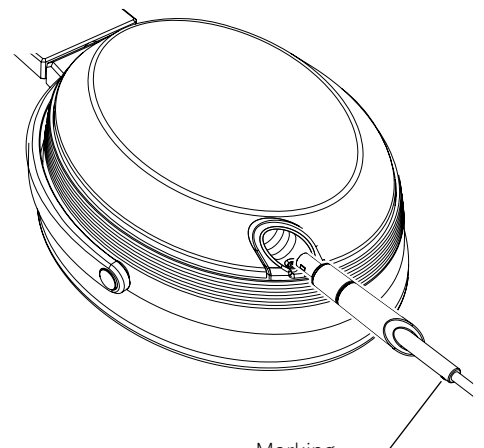

Fig. 2
- Insert the earcup connectors into the openings as shown in figure 2.